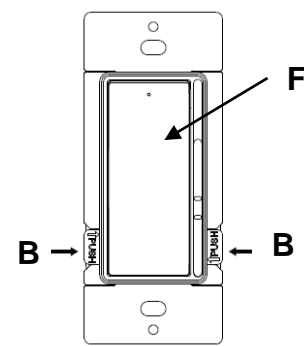

FIG. 7
- Press the PUSH tabs "B" at both sides of the bottom and pull forward the top cover "F" to release (FIG 7).